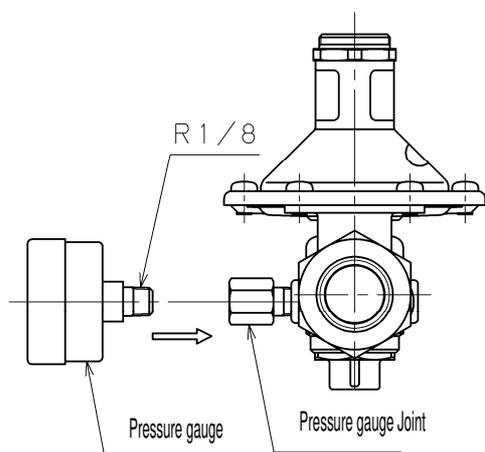

Fig. 3
- ( 1 ) Screw the pressure gauge into the pressure gauge joint. (Fig. 3)